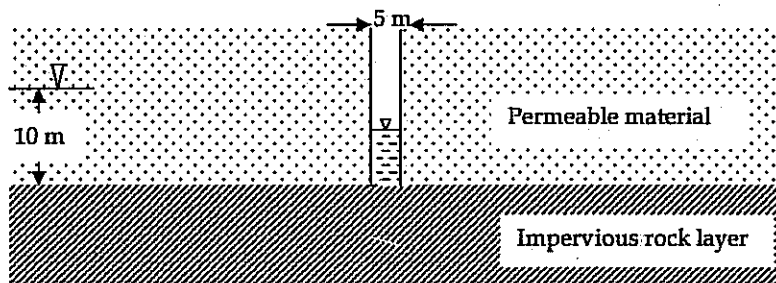

Figure 7
7) A large well of diameter 5 m is made in a horizontal layer of permeable material, as shown in Figure 7. The permeable material has a permeability of 2.5 m/day and lies on top of a horizontal layer of impervious rock, as shown in the figure. The well is used to supply water to a distant town and the average rate of pumping is 100,000 litres/day. The average rate of recharge of the aquifer is 1.5 mm/day. The height of the free surface of the aquifer far from the well is 10 m above the level of the impervious rock.